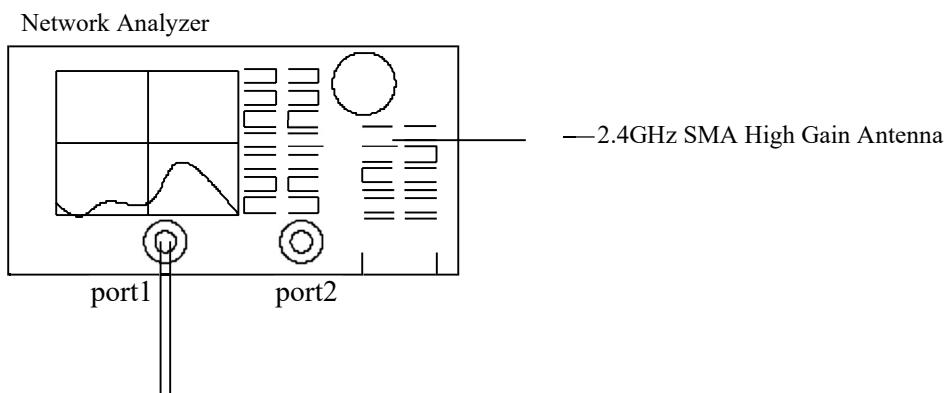

Fig.1 2.4GHz SMA High Gain Antenna measured in Network Analyzer
- (1) Calibrate the Network Analyzer by one port calibration using O.S.L .calibration kits .
- (2) Connect the antenna under test to the Network Analyzer.
- (3) Measure the S11(reflection coefficient) shown in Fig. 1.
- (4) Generally, the S11 is less than -10dB to ensure the 90% power into antenna and only less than 10% power back to system.